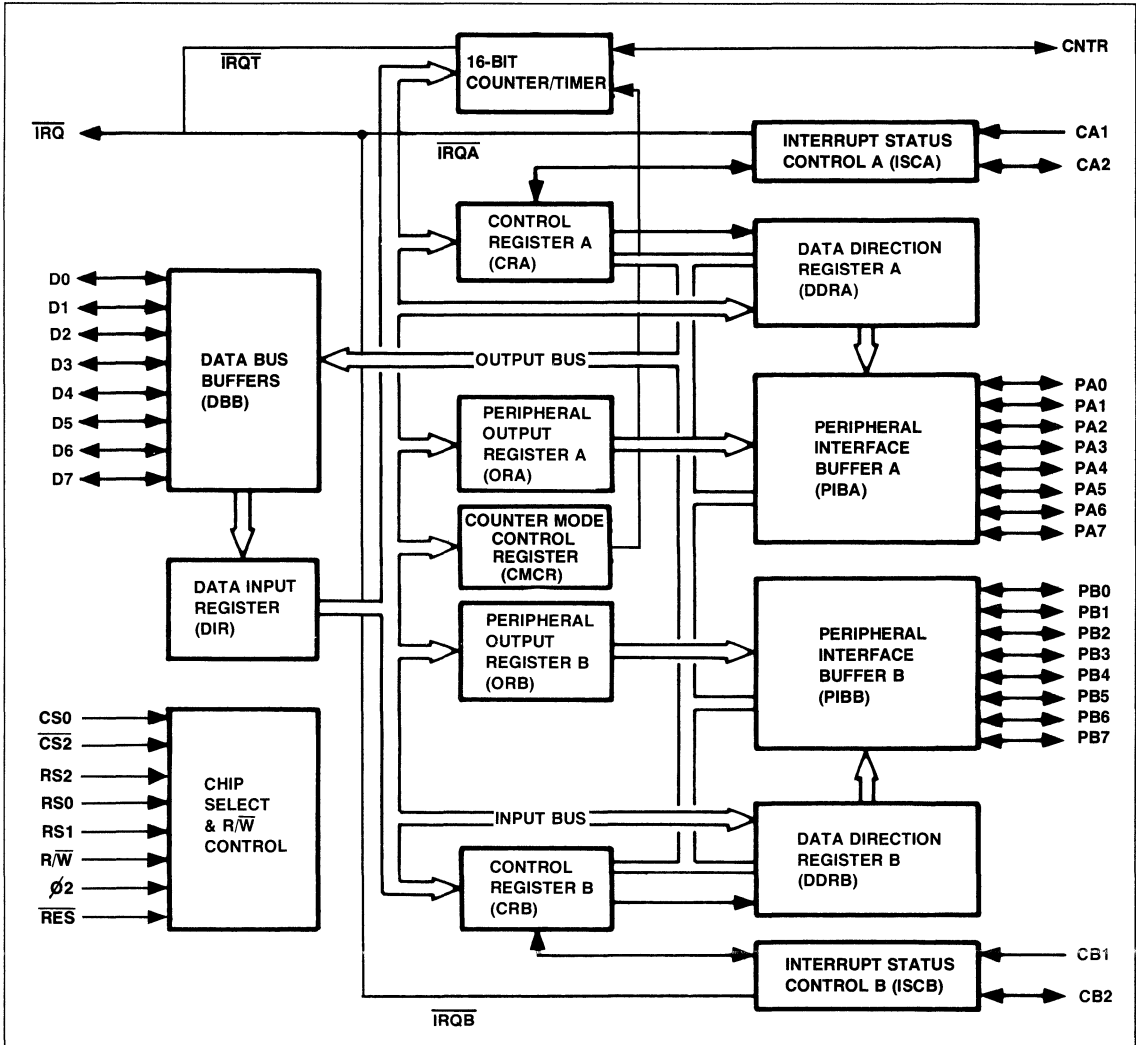

Figure 2. R65C24 PIAT Block Diagram
from the DBB to the PIAT registers. Chip Select and R/W control circuitry interface to the processor bus control lines. The Counter/Timer consists of a 16-bit counter; i.e., an 8-bit Upper Counter (UC) and 8-bit Lower Counter (LC), an 8-bit Upper Latch (UL), an 8-bit Lower Latch (LL), an 8-bit Snapshot Latch (SL), and a Status Register (SR). A Counter Mode Control Register (CMCR) selects the Counter/Timer mode of operation. Figure 2 is a block diagram of the R65C24 PIAT.